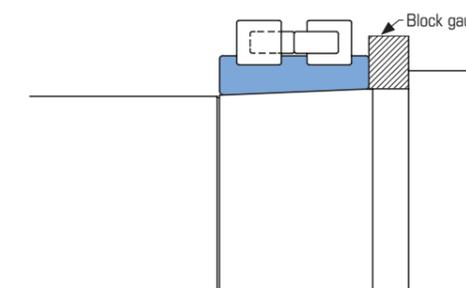

Figure 9.10 Spacer Temporary Width Dimension Measurement
- Use a block gauge to measure the length to the inner ring edges surface and shaft shoulder [Figure 9.10].